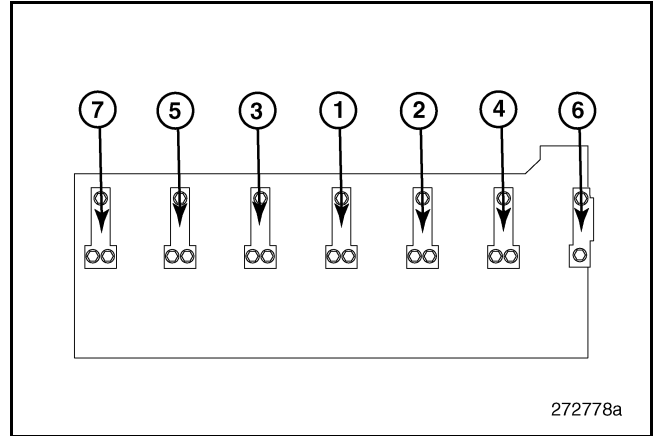

Figure 99 — Rocker Arm Shaft Fastener Loosening Sequence
- Beginning at the center camshaft bearing cap, begin loosening the three fasteners at each cap evenly in stages, following the sequence shown in Figure 99 until all fasteners are completely loose. Once loosened, remove the fasteners.